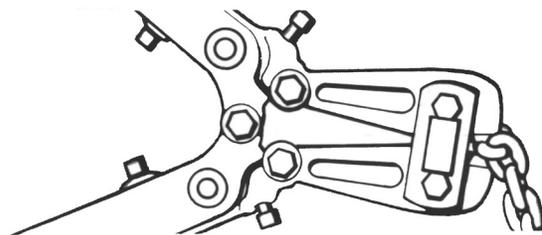

Figure 7. Cutting Chain with a Bolt Cutter
3. Use a bolt cutter (Figure 7) similar to the H.K. Porter No. 0590MTC with special cutter jaws for cutting hardened chain (25.4mm-1 inch) long cutting edge.